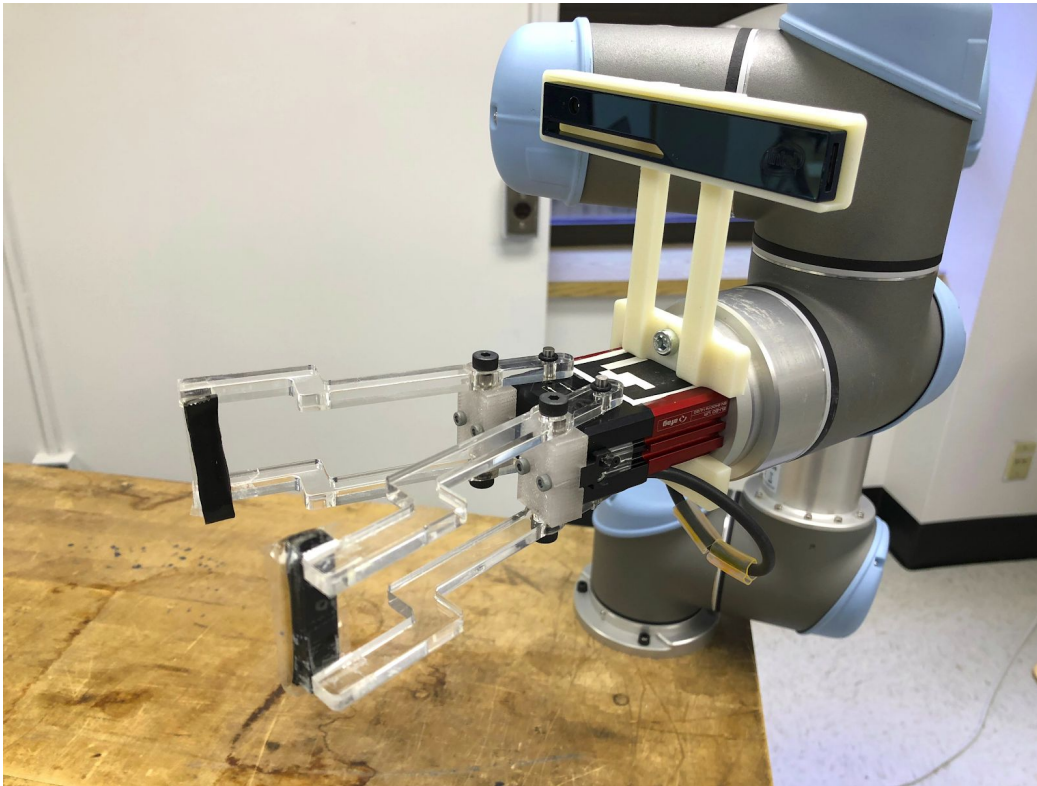

Fig. 2 Camera mount, R200, and gripper at the end-effector
- We made a 3D-printed camera mount that fixes the R200 and the gripper to the UR5 (see Fig. 2). This was in the 2nd week's goals.